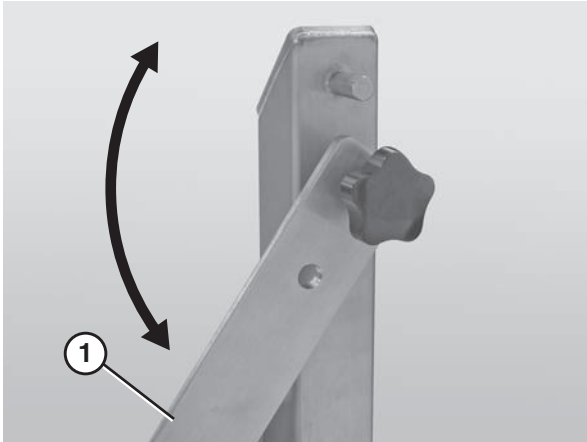

Figure 15
2. Lower the quick release arm (**Figure 15, item 1**) on one of the stands. *Note: if the conveyor is not equipped with Quick Release (QR Type) stands, it will be necessary to remove the entire stand.* For detailed instructions, refer to the “Sanitary Support Stands Installation, Maintenance and Parts Manual.”